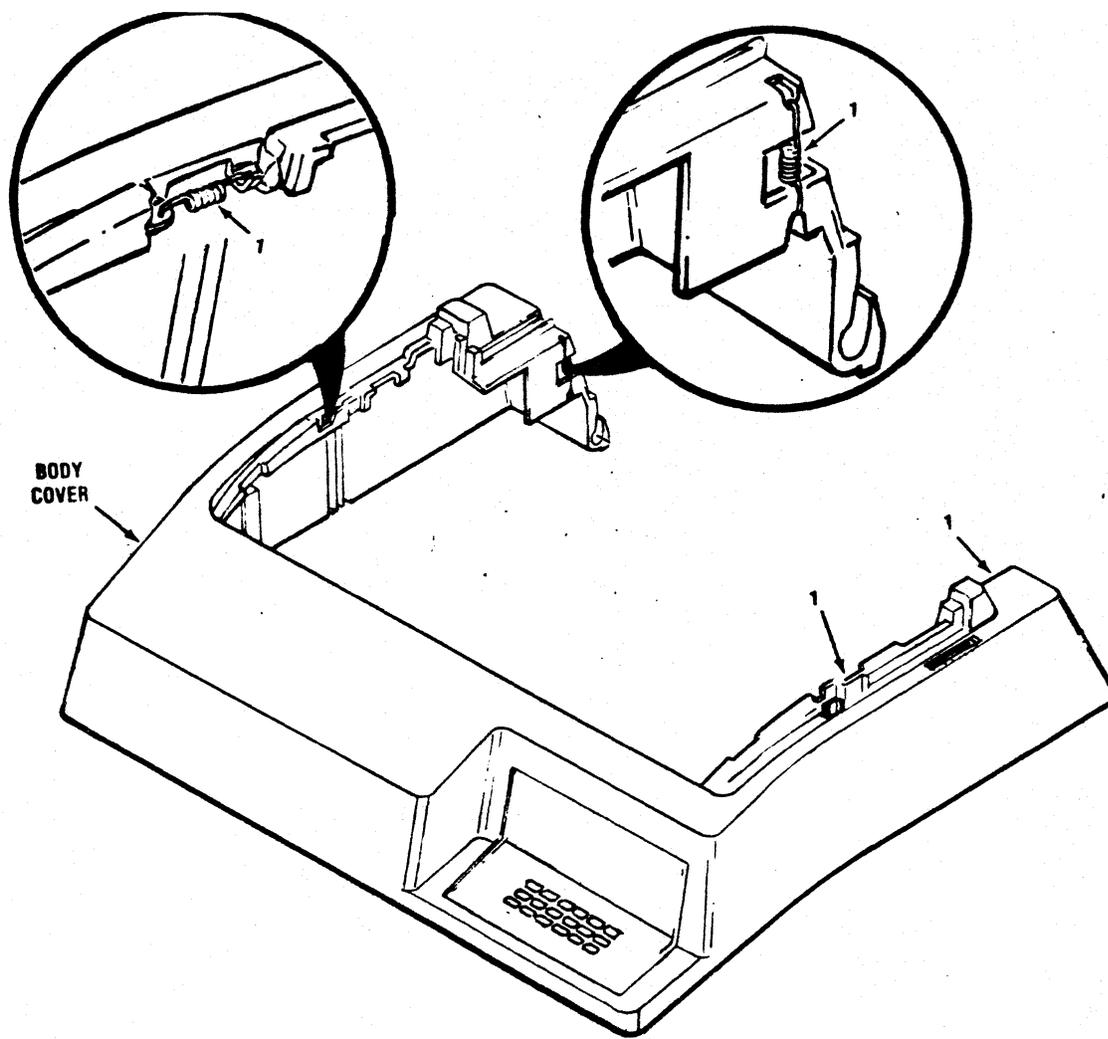

Figure 5-22 Cover Latch Springs
Four small springs, item 1 of Figure 5-22, are located on the inside of the body cover. The springs help secure the top and rear covers of the printer to the body cover. To remove any of the four springs, refer to Figure 5-22 and perform the following steps: